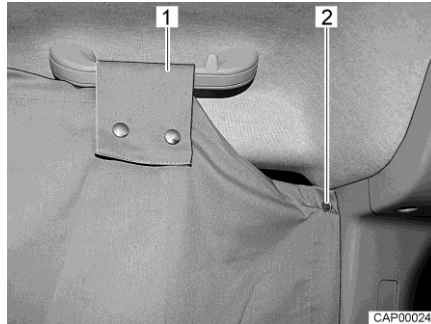

Fig. 19 Cabin black-out shade on side pane
- Fasten cabin black-out shade on one side of the driver's cabin. In order to do this, fasten two snap fasteners (Fig. 19,2) behind the side pane, on the B column.
- Guide loop (Fig. 19,1) over the handle above the side pane and fasten with snap fasteners.